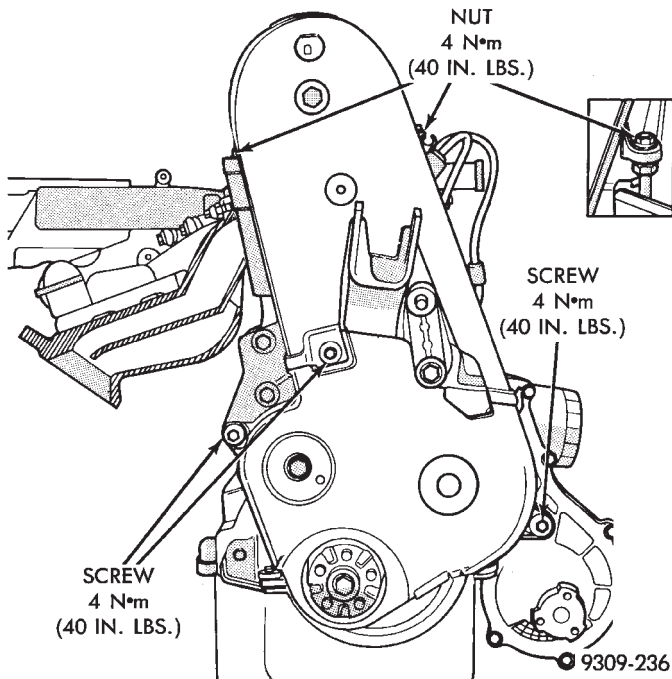
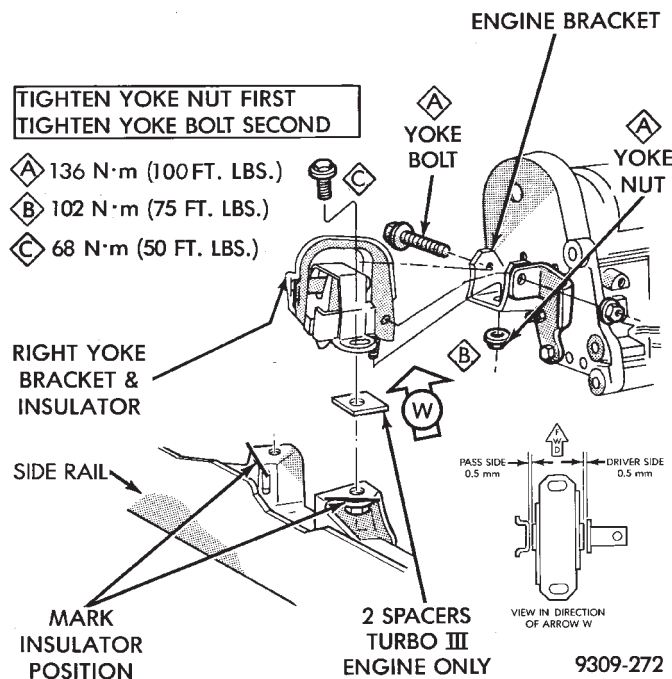

Fig. 4 Timing Belt Cover
Fig. 5 Right Engine Mount
- (5) Remove screws holding cover to cylinder block.
- (6) Remove both halves of timing belt cover and lay aside (Fig. 4)
- (7) Place a jack under engine.
- (8) Separate right engine mount (Fig. 5) and raise engine slightly.